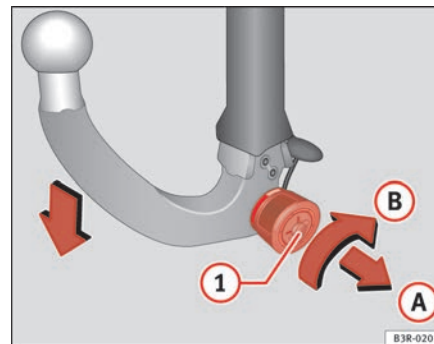

Fig. 156 Removable towing bracket: Removing the ball joint
- Insert the key in the lock **1** ⇒ fig. 156 on the knob.